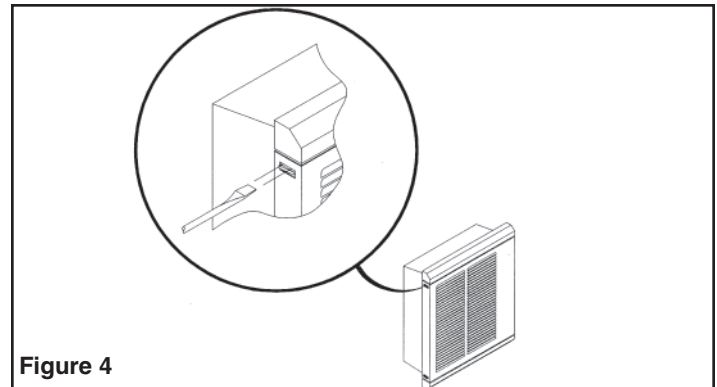

Figure 4
2. Remove front cover by depressing plastic tabs with a flat bladed screwdriver as shown in Figure 4. Release both tabs on one side then rotate cover off of heater fan assembly.